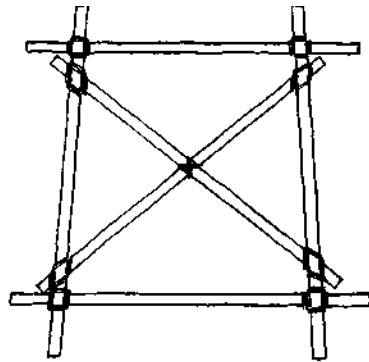

Fig. 77
1. *A Square Lashing* where the spars under load have a tendency to slide over each other, at the corners in figure 77.
2. *A Diagonal Lashing* for bracings where the spars may spring away from each other under load, the centre in figure 77.